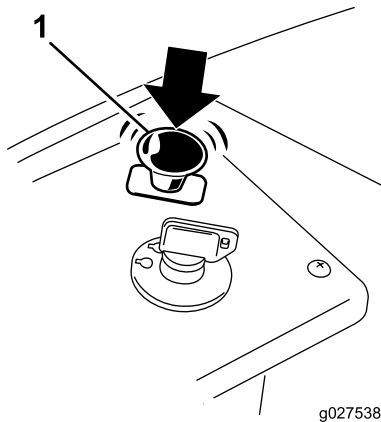

Figure 13
1. Disengage the blades by moving the blade-control switch to Off (Figure 13).